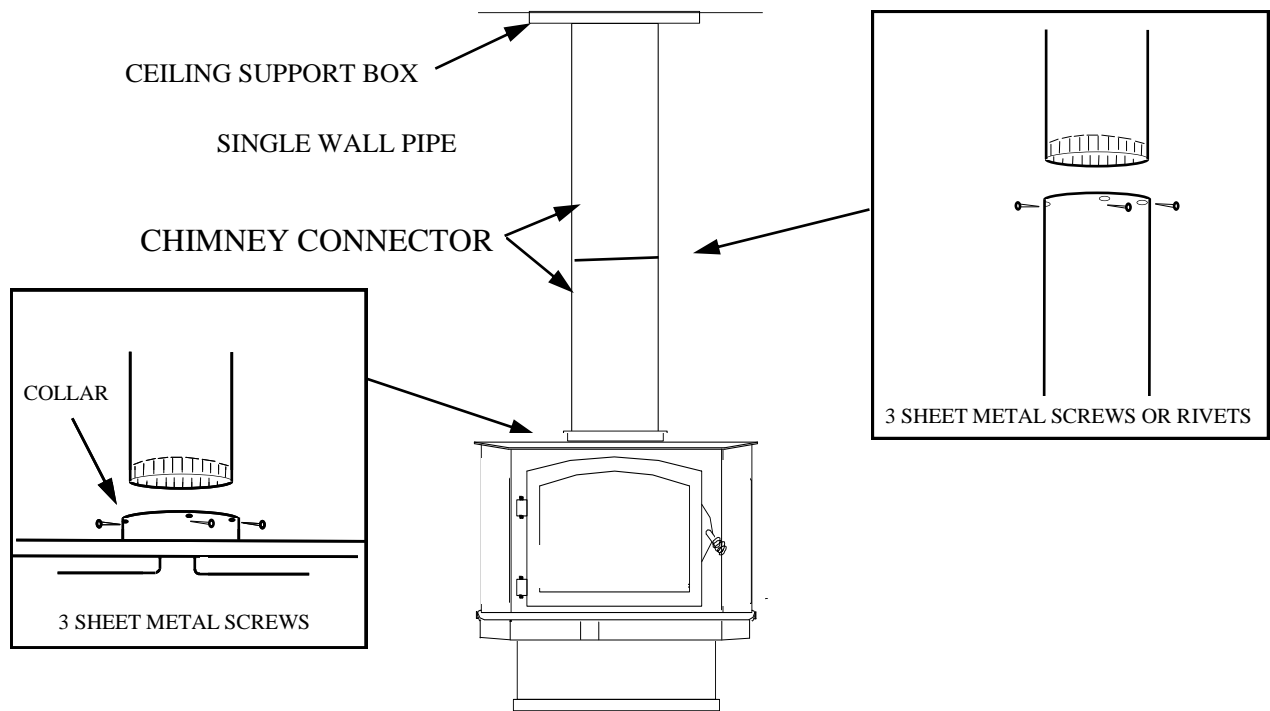

Figure 8
- (c) Secure each section to each other using at least three (3) sheet metal screws or rivets.
- (d) Use three (3) sheet metal screws to fasten pipe to connector collar on heater.
3. Now connect stove and ceiling support box using #24 ga. minimum blued or black steel connector pipe. (**DO NOT USE GALVANIZED PIPE.**) Connect each section so crimped end faces downward, and secure each section to each other using at least three (3) sheet metal screws or rivets. Next, install an optional New Buck Corporation chimney connector to flue exit of the heater or you may use "Ell" brackets to fasten the pipe to stove. (See Figure 8. Page 19).